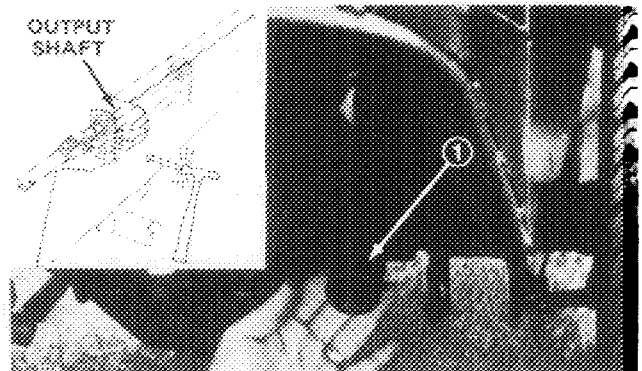

Figure 24
2. Remove five wheel nuts and slide left wheel off axle to expose access hole inside of chassis (Fig. 24).
3. Push PTO lever forward until pulley and brake disengage. Align hole in PTO shaft with hole in chassis (Fig. 24).
4. Through access hole in chassis, drive roll pin out of PTO shaft and output shaft with pin punch and ball peen hammer (Fig. 24).